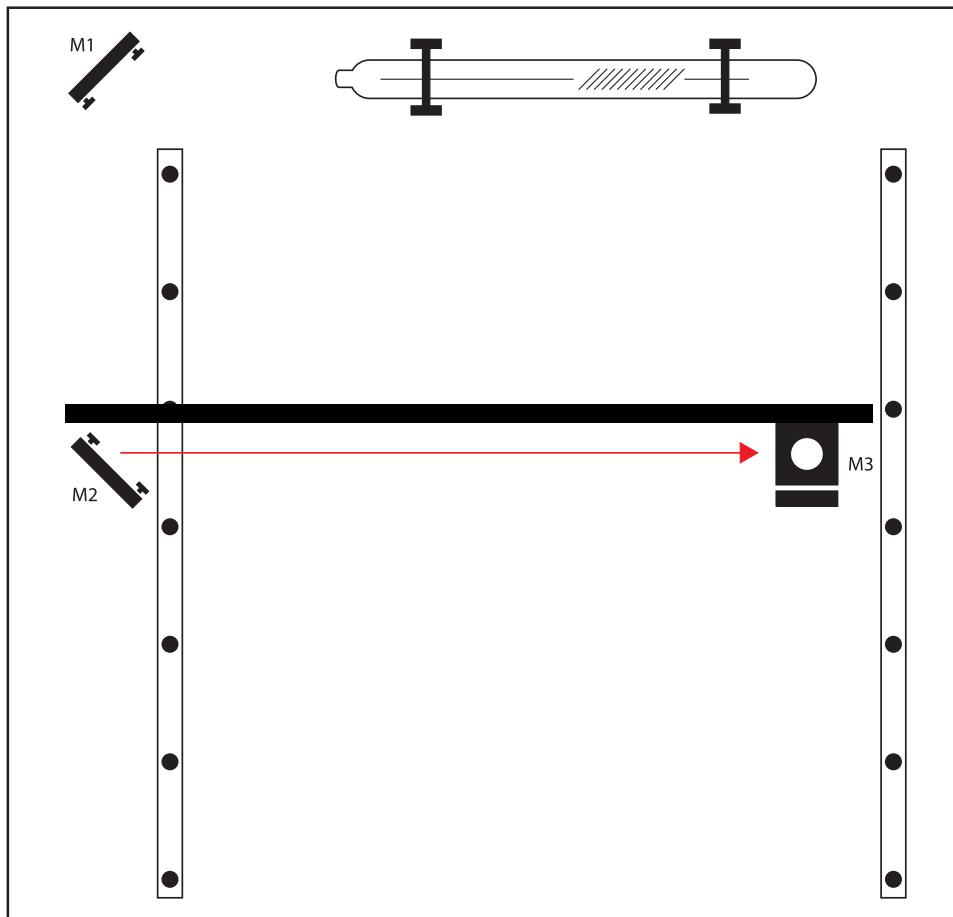

Figure 4.10
9. Re-Position X-Gantry back to “Far”: Jog the laser head to the right position where you did the first test fire (see Figure 4.10).